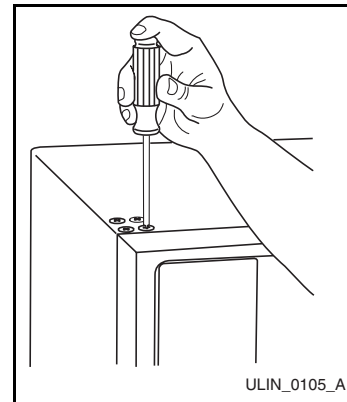

Figure 14
4. Remove four plastic plugs (**Figure 14**) in hinge holes, top of cabinet, opposite side. Be careful not to scratch cabinet.